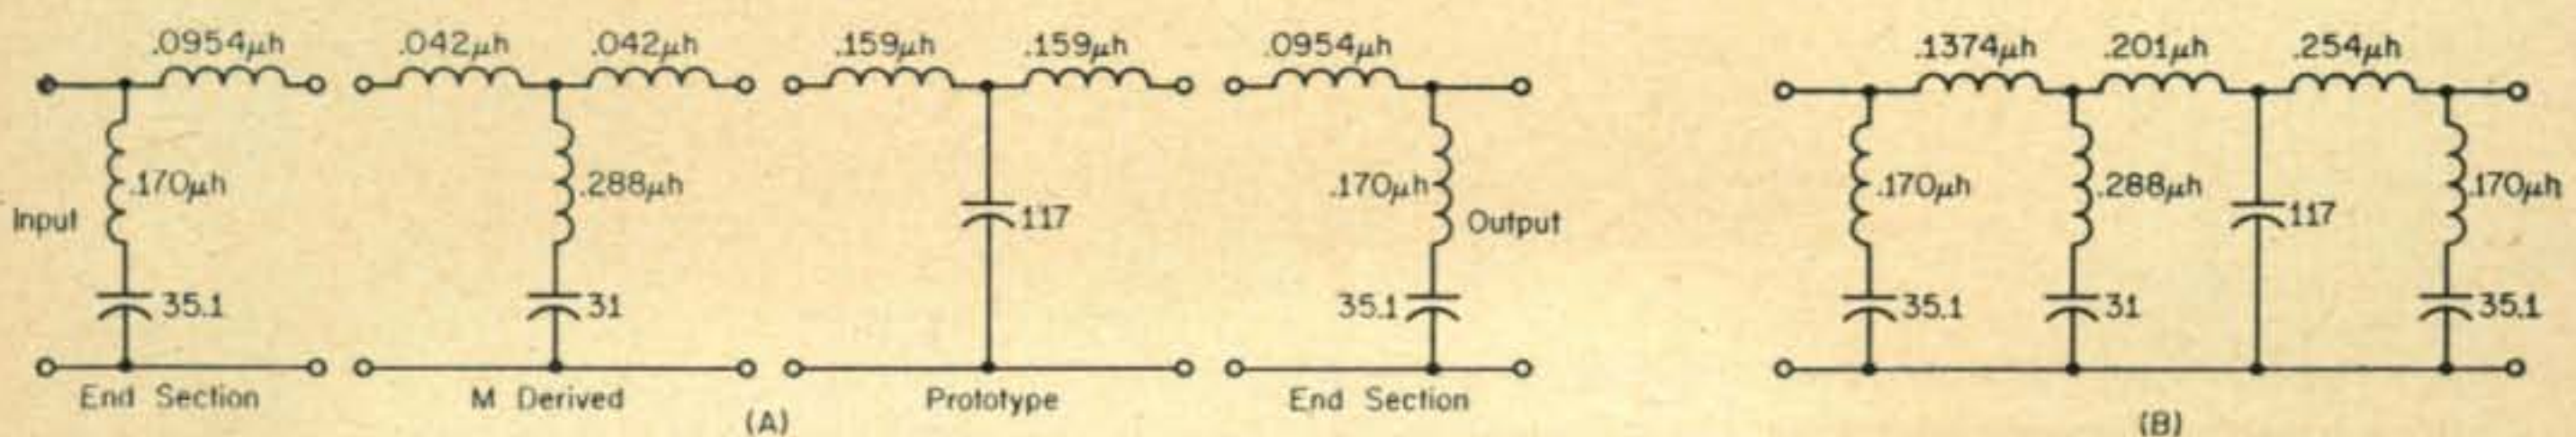

Fig. 6 (A)—Combined view of the four filter sections. (B) Final form of the filter after series inductor values have been added.
Assembling our three stages as illustrated in fig. 6(A) requires that the series inductors be added for the final result to produce the final circuit of fig. 6(B).
Construction of the unit should not pose any difficulties in the operation of the unit. There are, however, two criteria that should be observed: mount your inductors at least 2 coil diameters apart, and where possible keep the coils perpendicular to each other. A look at fig. 6 will give you an idea of how to mount the components. Remember, follow good T.V.I. prevention techniques.